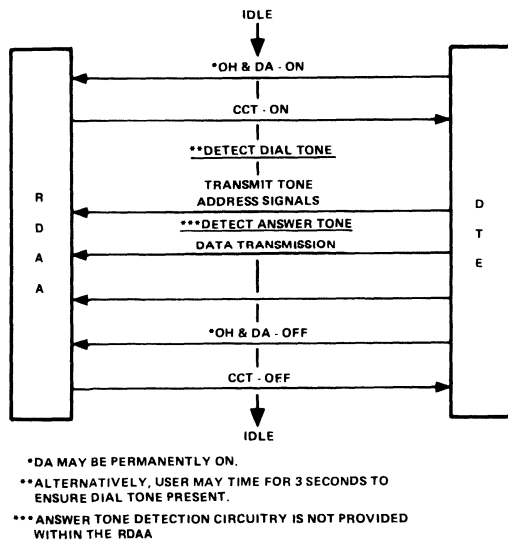

Figure 8. Touch-Tone Origination Sequence
- B. Follow the procedure of Figure 8 for touch tone origination or Figure 7 for pulse dial origination.
The user's terminal must provide the logic to turn ON the OH and RCCT signals, detect the dial tone (or time for 3 seconds to ensure dial tone present) and transmit the tone-address signals via the TXA lead (Figure 8). The 2-second delay period between OH and RCCT going ON and CCT/ going ON is not invoked in the origination mode. The DTE should monitor for call progress indications (dial tone, busy tone, answer tone, and call intercept).